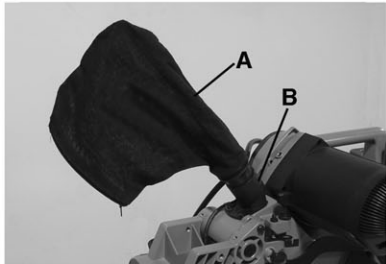

Figure 8
The dust bag (A) Fig.8 fits over the dust bag adaptor (B) at the rear of the saw head. For more efficient operation, empty the dust bag when it is no more than half full. This allows better air flow through the bag.